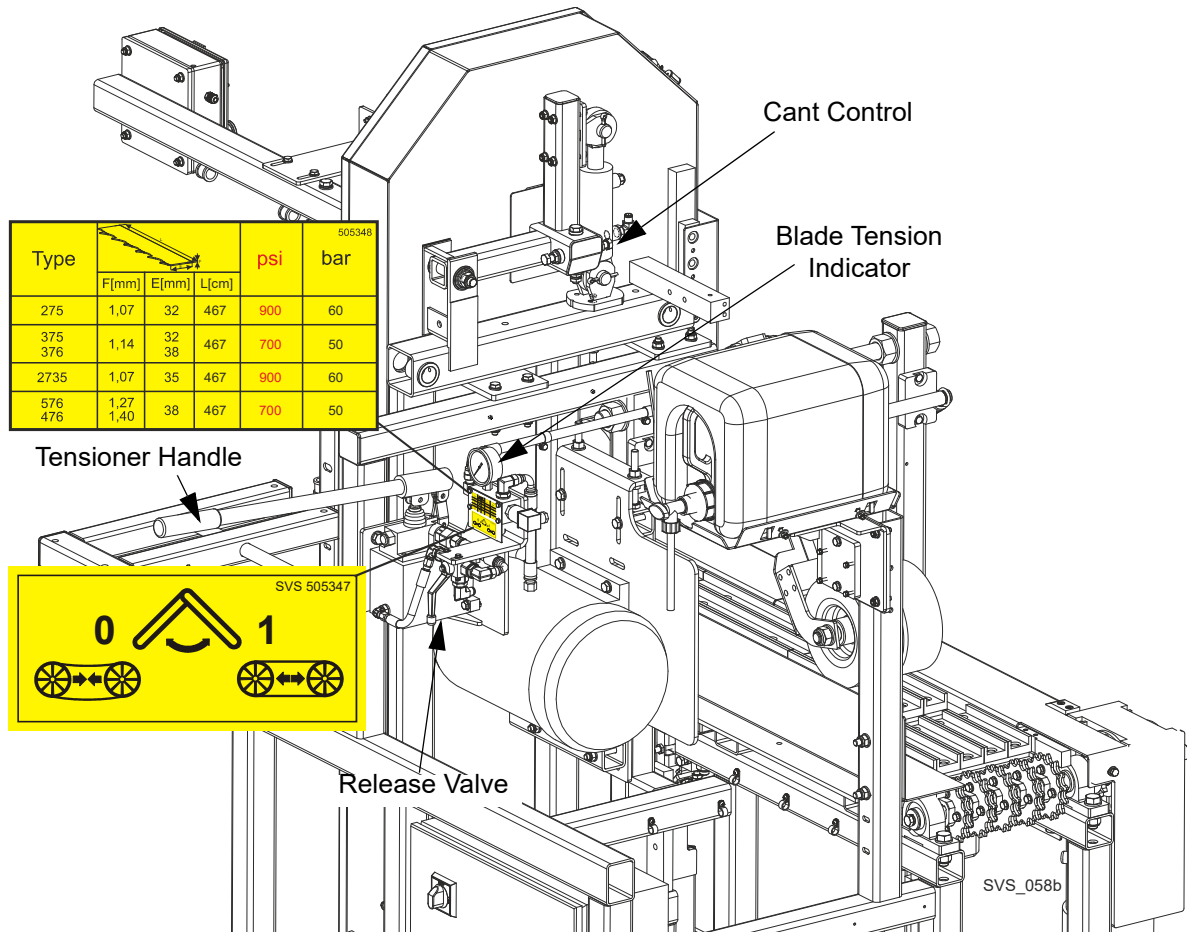

FIG. 2-3
**See Figure 2-3.** Place the provided handle in the blade tensioner socket and secure with a screw. Set the tensioner valve to position "1". Move the tensioner handle up and down to tension the blade. Depends on the installed blade type, tension the blade to the value shown on the decal located below blade tension valve. Values "F" and "E" are: blade thickness and blade width. Check the blade tension occasionally when adjusting the cant control or while cutting and adjust if necessary. As the blade and belts heat up and stretch, the blade tension will change. Also, ambient temperature changes can cause
5. Use the cant adjustment bolt, shown in **Figure 2-3**, to adjust where the blade travels on the blade wheels.